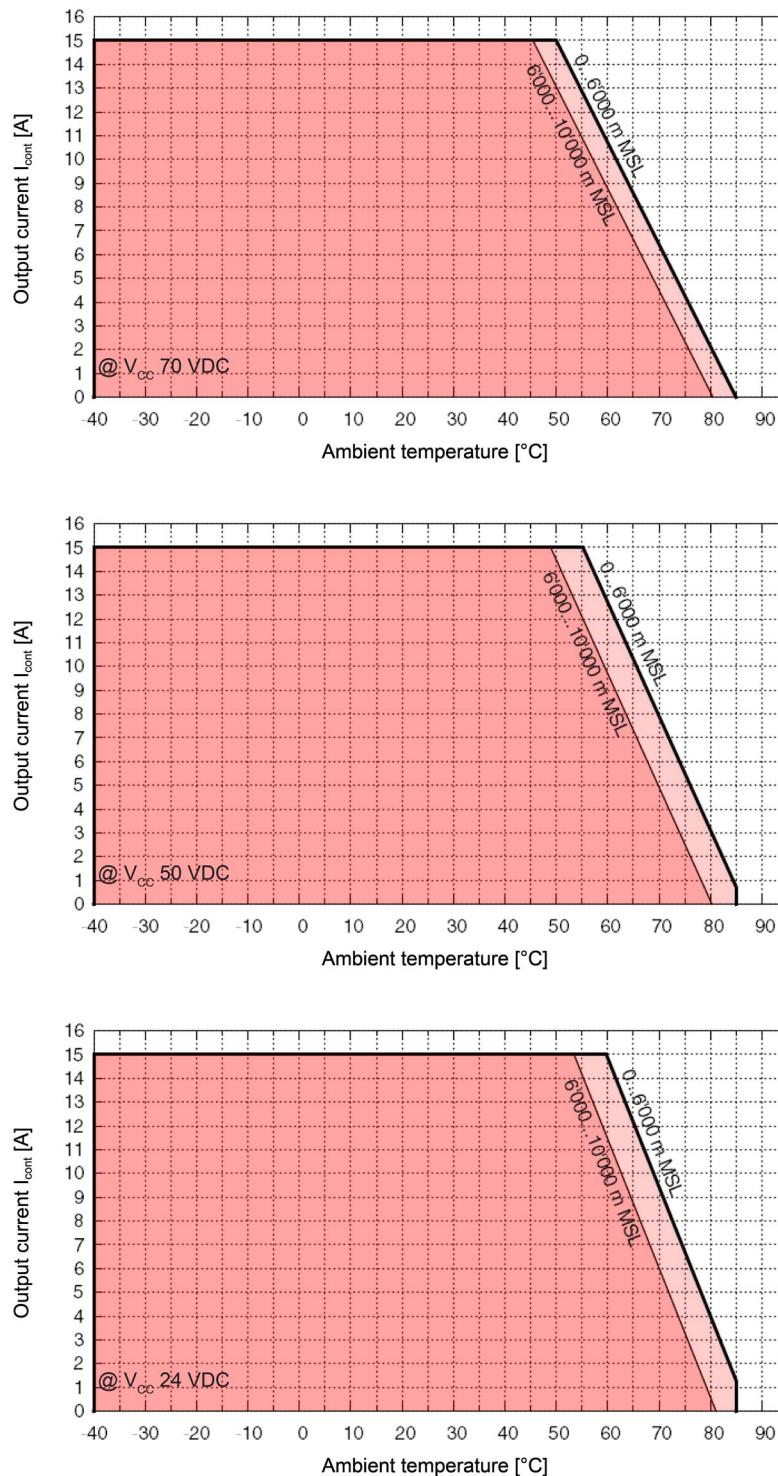

Figure 2-2 Derating of output current
Extended range ⁽¹⁾	+50...+85 °C; Derating: -0.429 A/°C (\rightarrow Figure 2-2) Additional derating with inserted extension card: Ambient temperature less 5 °C (\rightarrow Figure 2-2) ⁽⁴⁾
- (1) Operation within the extended range is permitted. However, a respective derating (declination of output current I_{cont}) as to the stated values will apply.
- (2) Operating altitude in meters above Mean Sea Level, MSL.
- (3) Available with optional EPOS4 EtherCAT Card.
- (4) Derating further increases with an inserted extension card. For the actual value, consult \rightarrow Figure 2-2 and shift the graph horizontally to the left by the specified value.